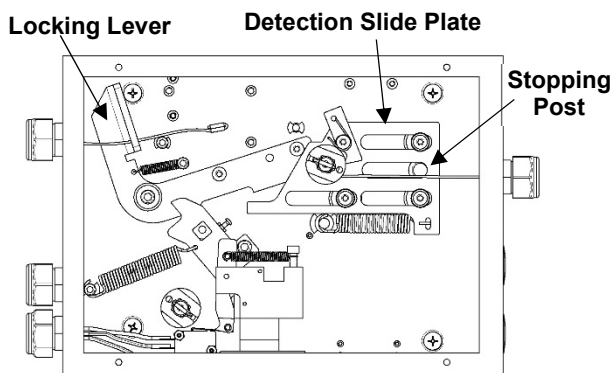

Figure 4-34.
- Using a ratchet (3/8" drive) rotate the Fusible Link Line Ratchet clockwise until all slack has been removed from the detection cable. See Figure 4-34.